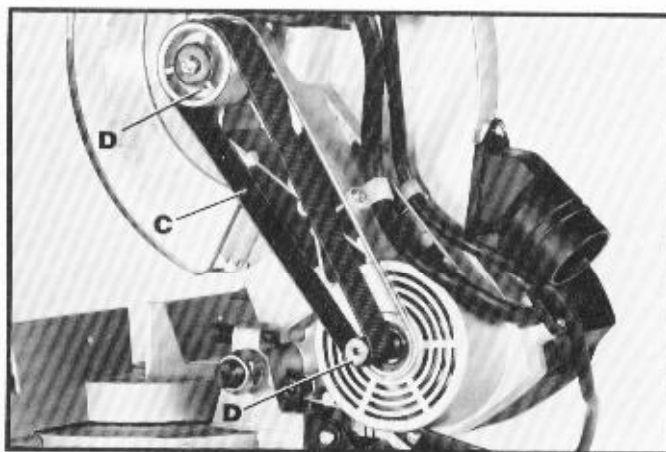

Fig. 63
4. Assemble new belt (C) Fig. 63, by engaging two grooves on the inside of the belt to two grooves on the motor pulley and arbor pulley while rotating the pulleys. Continue rotating pulleys (D) while pushing in on belt (C) until belt is fully engaged with the pulleys.